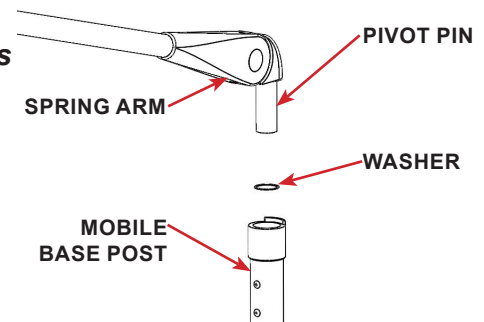

FIGURE 2.37 - Spring arm Assembly
STEP 2: Slide the extension arm through the washer and into the post. Refer to FIGURE 2.37